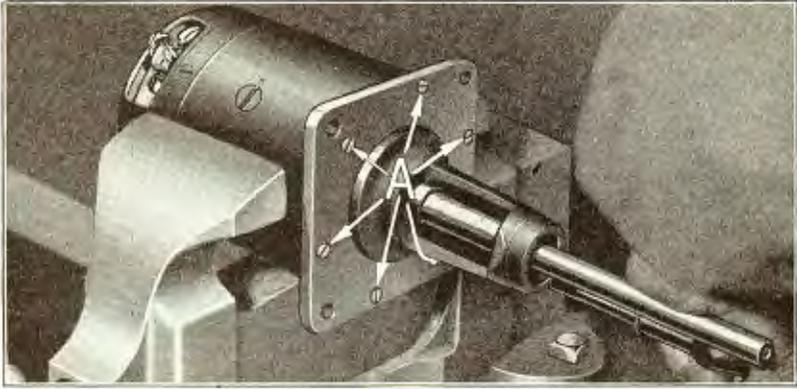
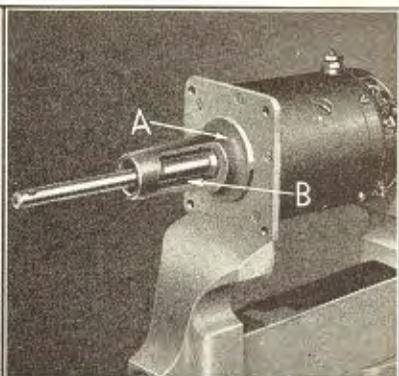

Fig. 487
Fig. 496
- 956** Run out the six mounting bracket to yoke screws (See "A" Fig. 487).
- 974 Insert armature into yoke placing mounting bracket "A" over end of shaft and positioning it against yoke. The bracket is installed with the opening "B" in bracket placed to the right when facing front end of starting motor as shown in Fig. 496. Run in the six mounting bracket to yoke screws and lockwashers (See Fig. 487). Lower brushes into brush holders and position brush springs over brushes.